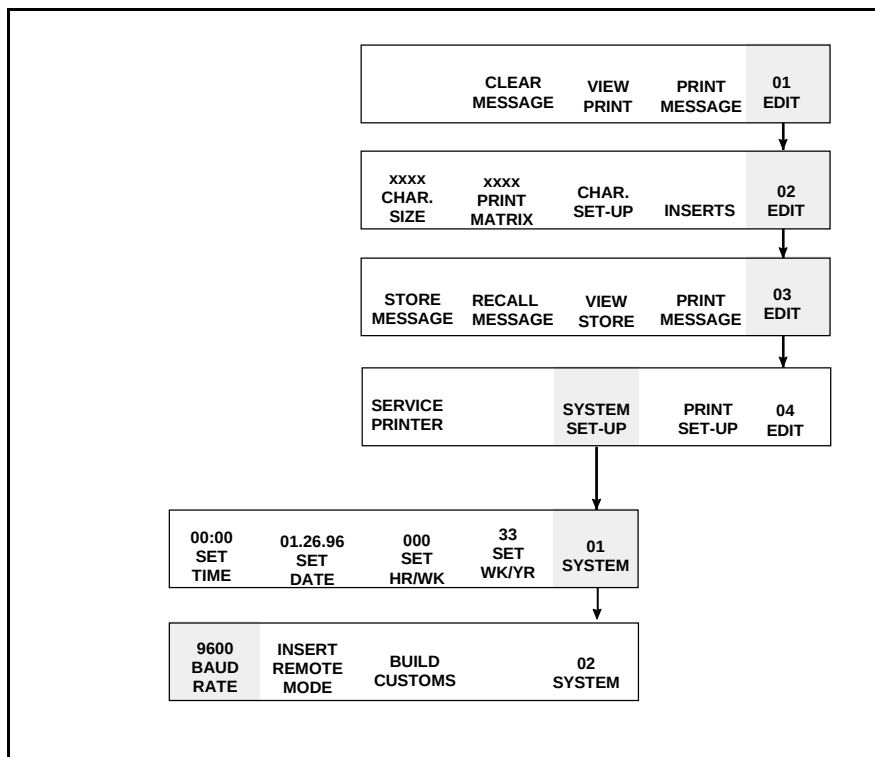

Figure 7-15. Accessing Frame <02 SYSTEM>
1. Begin in Frame <02 SYSTEM>. Refer to Figure 7-15.